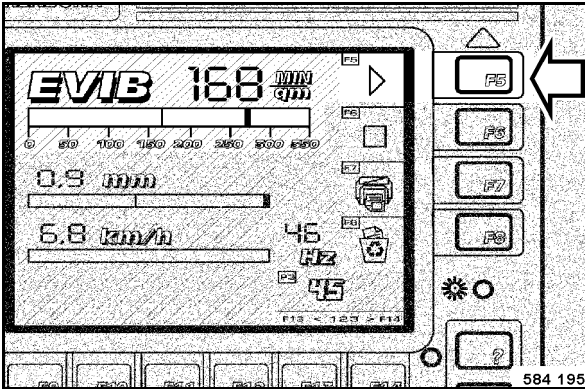

Fig. 91
- Control field F5 (Fig. 91) lights green.